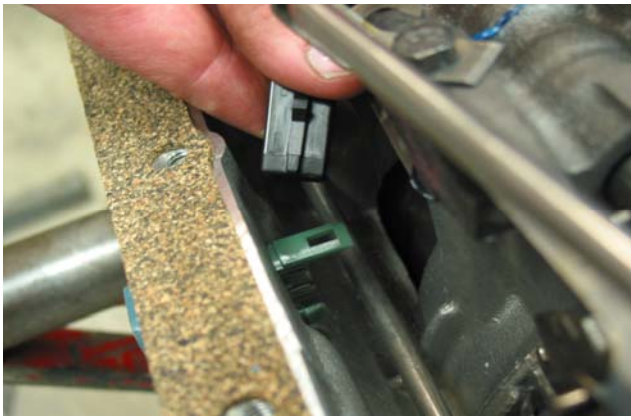

Figure 9
7. Plug in the black four way connector into the case connector. See Figure 9.